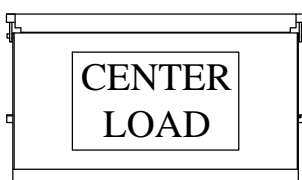

Figure 7: Step 11.
- Step 11. To load and use the liftgate, center the load on the platform side to side and front to back (Figure 7). Put heavier loads as close to the front of the platform as possible (near truck). Platform cart stops may be actuated at this time, if equipped.